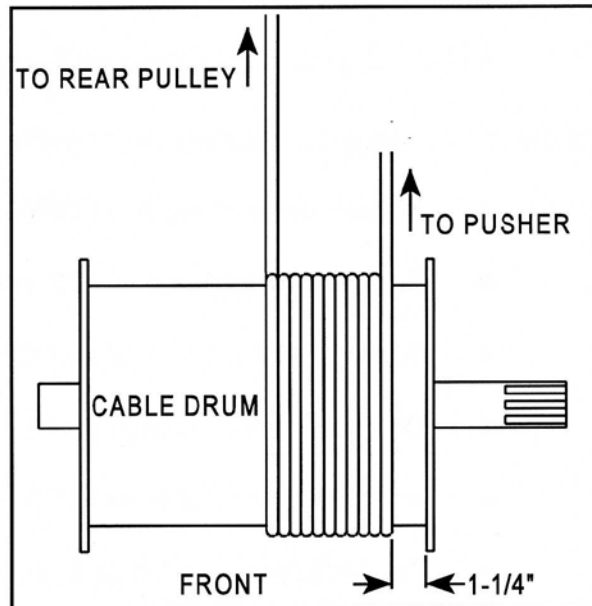

Figure 1 - CABLE DRUM
- Remove DRUM GUARD and wrap CABLE 9-1/2 times around CABLE DRUM starting from non-sprocket bottom side and bring off top of CABLE DRUM 1-1/4" from sprocket side flange (see Figure 1).